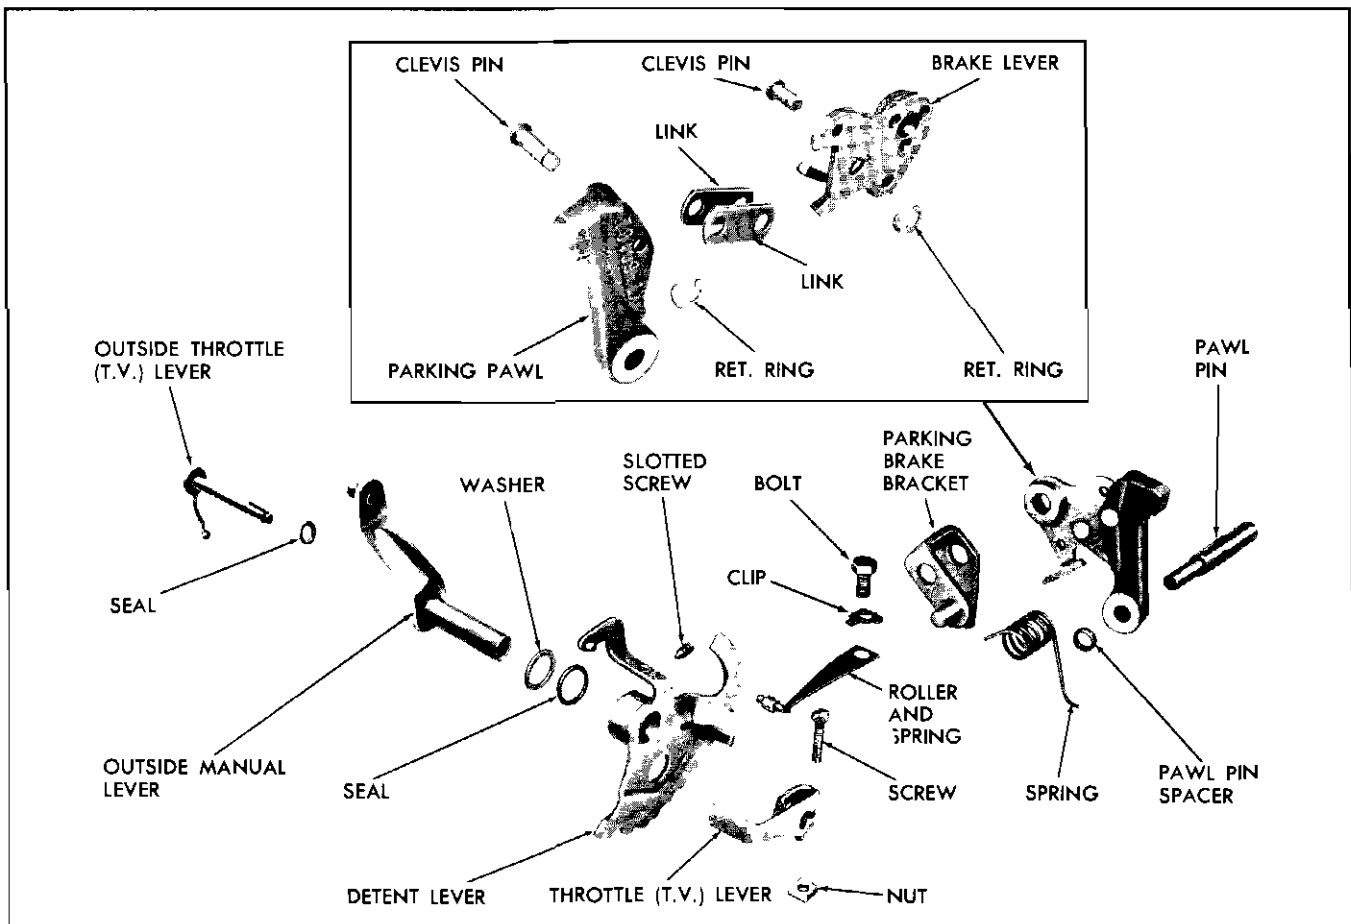
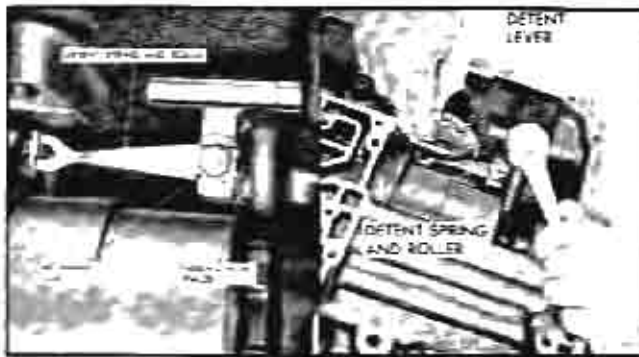

Fig. 146 Parking Brake Parts—Exploded
Fig. 147 Installing Detent Spring and Roller
in the case to act as a guide while centering the roller in detent, tighten attaching bolt to 15-18 lb. ft. torque (Fig. 147).
1. Place parking pawl pin spacer (Fig. 146) in recess in case (Fig. 147).